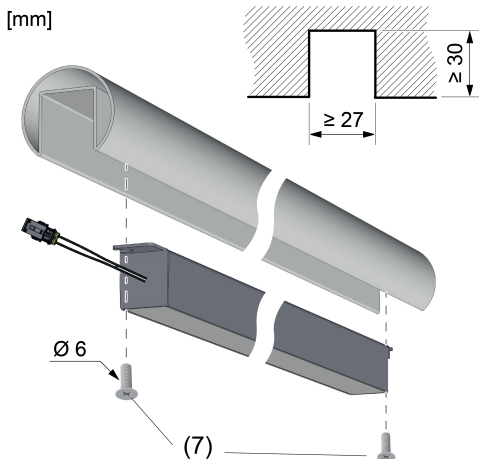

Figure 3: Mounting the LED light insert
- In the mounting base material (e.g. handrail), prepare a groove according to drawing (Figure 3).
- Fasten LED light insert with stainless steel screws (7) in the groove (Figure 3).